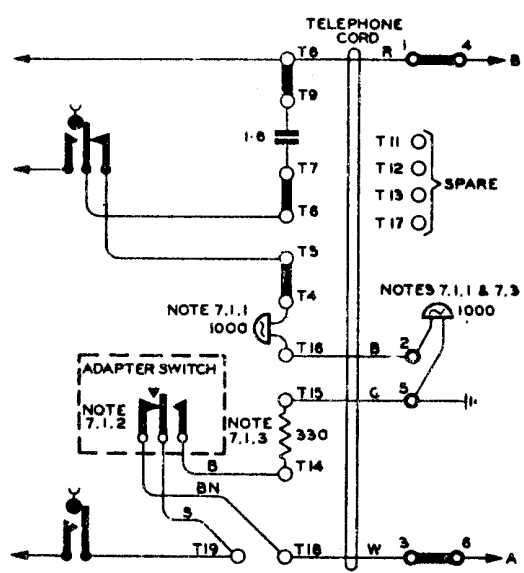

FIG. 11
7.3 Extension Bell. Replace the 3-wire cord HC 543.... with a 4-wire cord KC 729.... and connect as shown in Fig. 11.